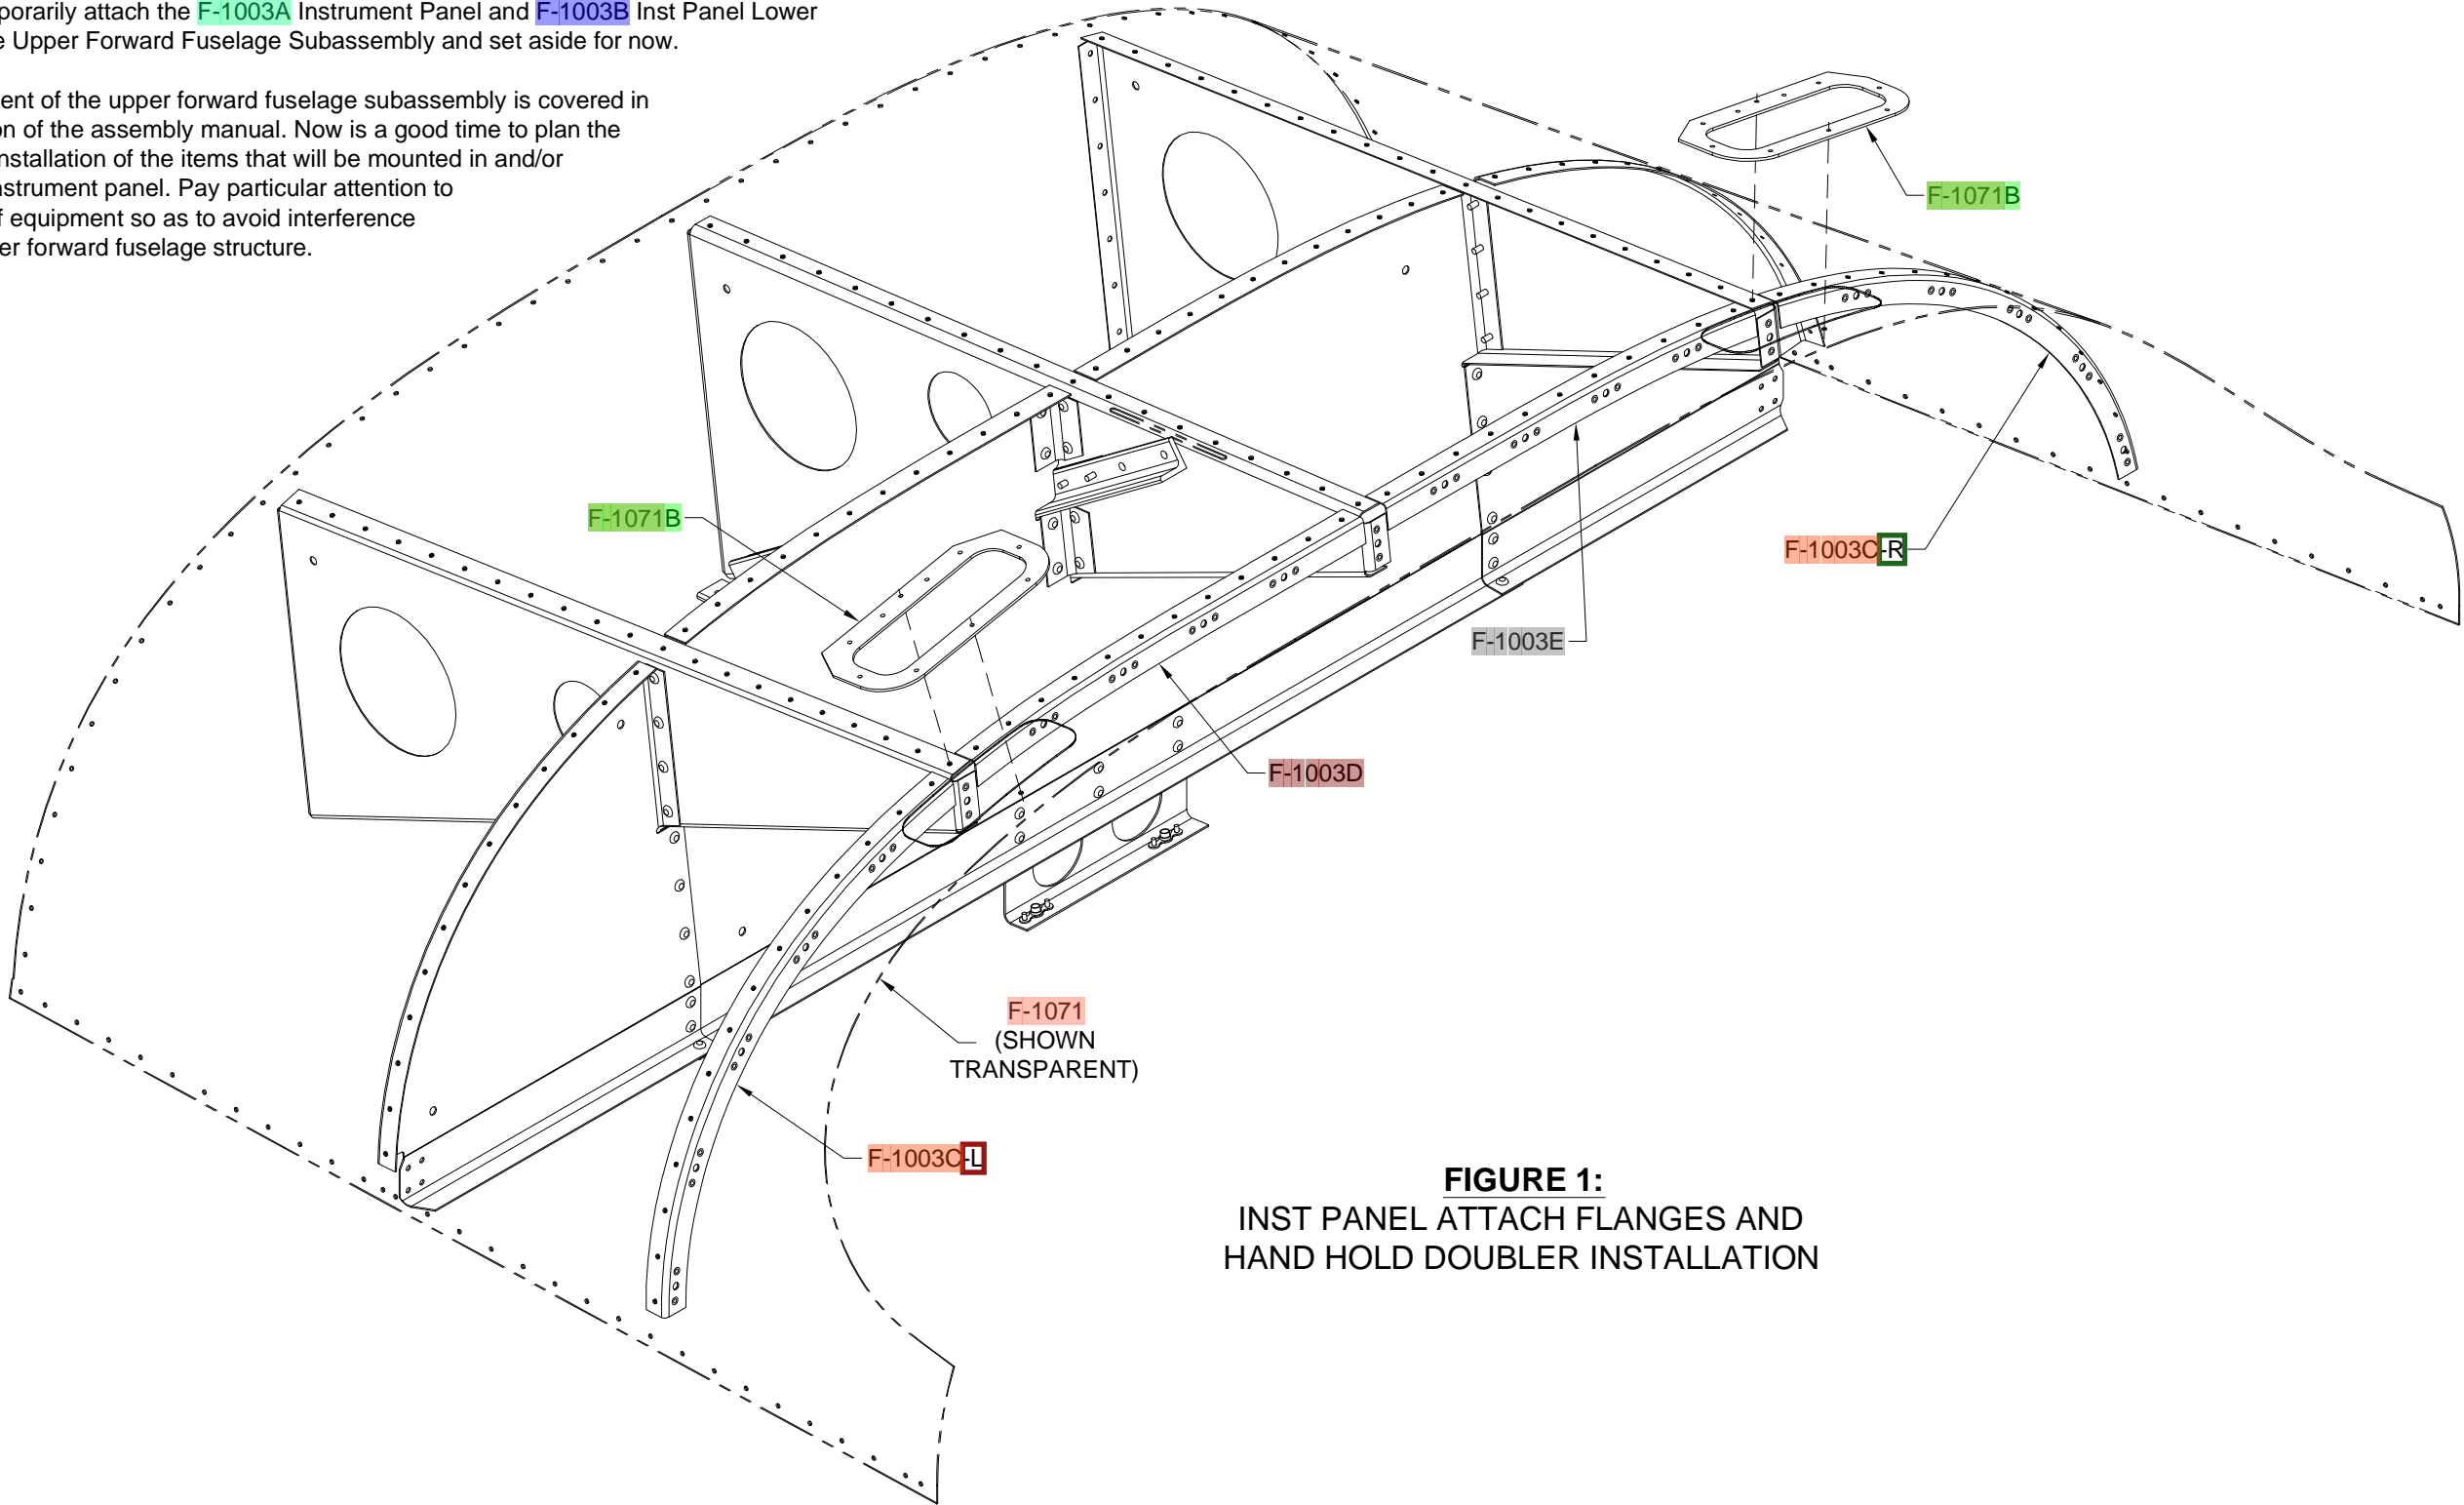

FIGURE 1:
Step 3: Rivet the two **F-1071B** Hand Hold Doublers to the **F-1071** Fwd Fuse Top Skin as shown in Figure 1. Use the rivets shown in Page 31-9Q, Figure 2.